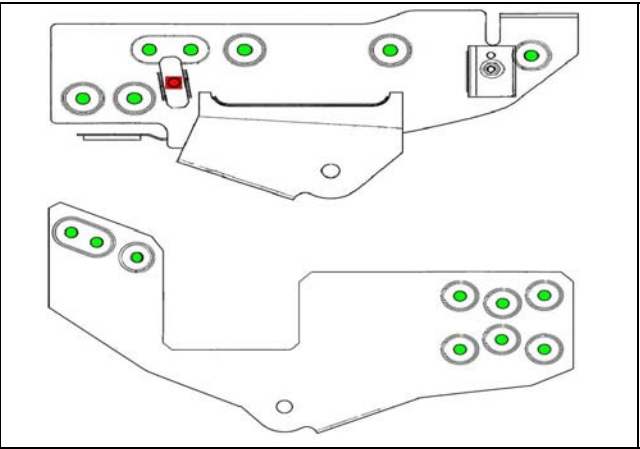

Figure 45
18. Using the 1/4" drill bit guide or equivalent, drill 1/4" pilot holes for each bracket mounting point into the frame rail, 16 holes for each bracket. See Figure 45.
19. Using a 1/4" drill bit, drill a hole in the frame through the passenger side Type "B" bracket brake clip mounting hole. See Figure 45.
21. Locate the 1/4" hole drilled in step 17. Use the 33/64" drill bit and final drill this location. Mark this location with tape or chalk. This hole is required to provide clearance for the passenger side brake pipe clip. See Figure 45.